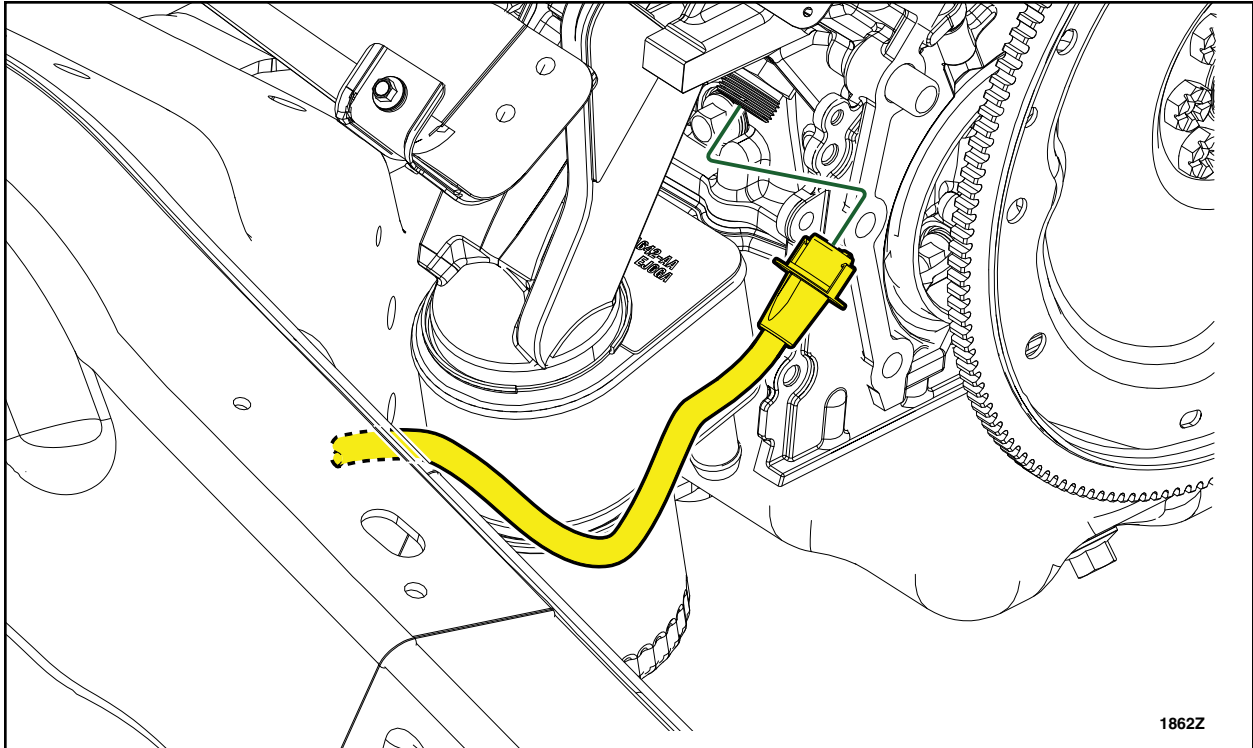

FIGURE 2a
2. Remove and discard the wire assembly. See Figures 2a, 2b and 2c.
5. Install the *new* wire assembly in the vehicle following the same routing as the wire assembly that is being replaced. See Figures 2a, 2b and 2c.